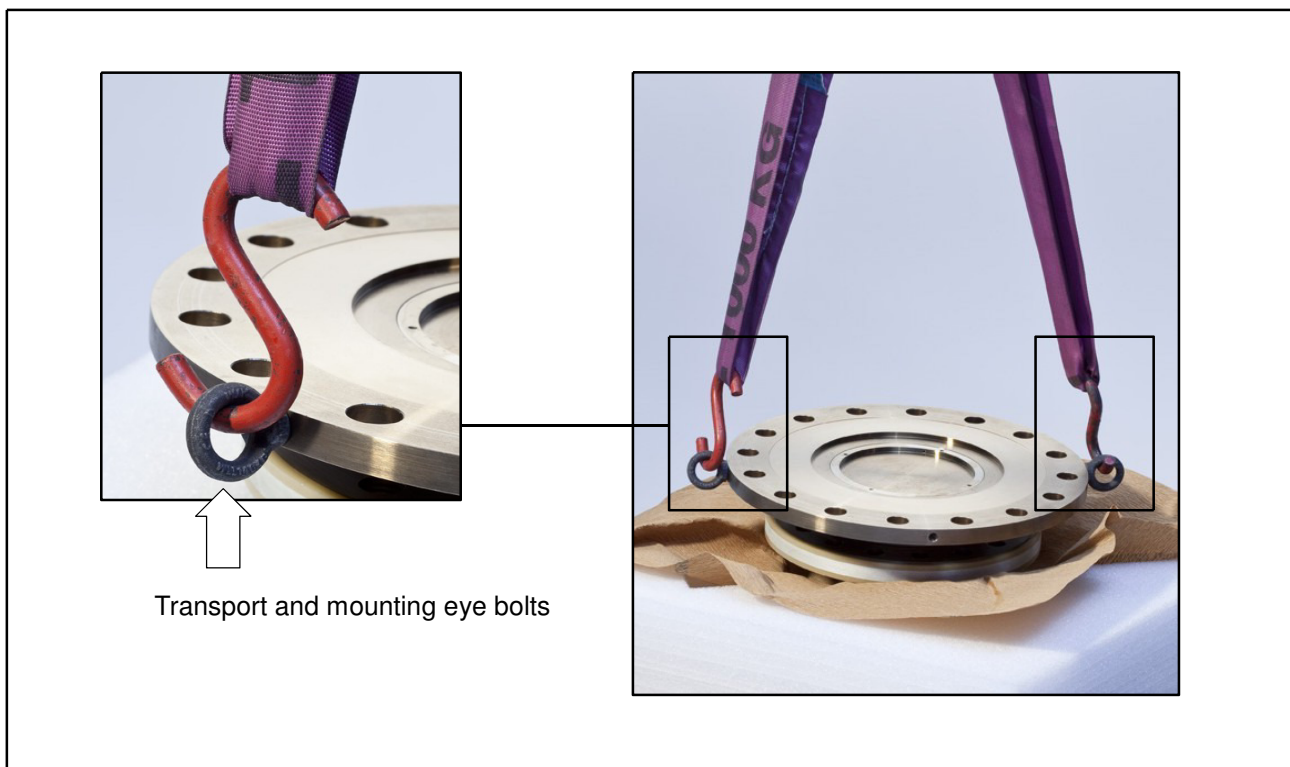

Fig 5.1: Transport and mounting eye bolts on the rotor
1. Lift the rotor out of the packaging, rotate horizontally by 180°, so that the bigger flange is pointing upwards (see exemplary Fig 5.1).
6. Carefully lift up the rotor and move it to the mounting position (see Fig 5.1).